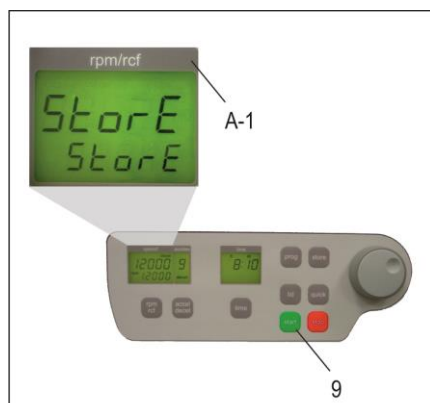

Figure 6
- All changed settings must be confirmed by the key, "start" (9). A confirmation screen will appear with the word; "store" in the display box, "rpm/rcf"(A-1) - Only then, the pre-selections are valid, (see Figure 6)!